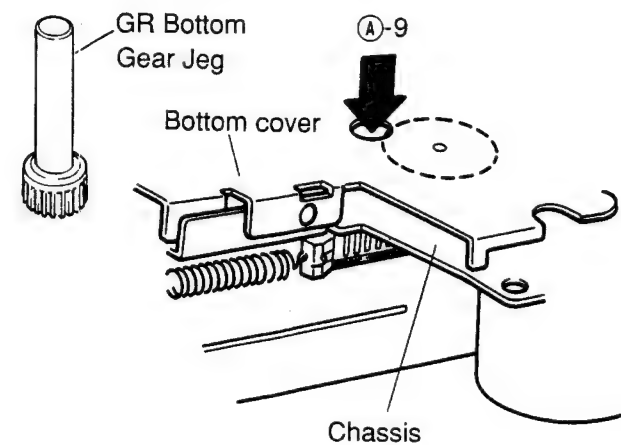

Figure 4
- (12) Since the hooks marked ⑤-8 will be lifted slightly as shown in Figure 4, insert the jig through the hole ⑤-9, and fix it turning the jig slightly in the direction ⑤-11.
(Refer to Figures 4 and 5.)
- (14) Insert the jig into the hole ⑤-9 as shown in Figure and rotate the eject solenoid counterclockwise about 20 times, pulling it in the direction ⑤-10 with the finger. Then the eject operation is completed.
Instead of operation (14), the eject operation can be performed by mounting the mechanism to the product. (Refer to Figures 4 and 5.)